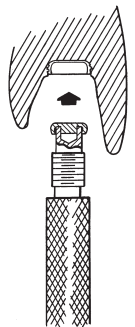
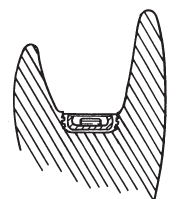

Fig. 9
Fig. 10
9. The Locator Male Seating Tool (contained in Locator Core Tool, Zest order #8393) is used to firmly push a Locator Replacement Male into the metal Denture Cap. (Fig. 9) The replacement male must seat securely into place, level with the rim of the cap. (Fig. 10)